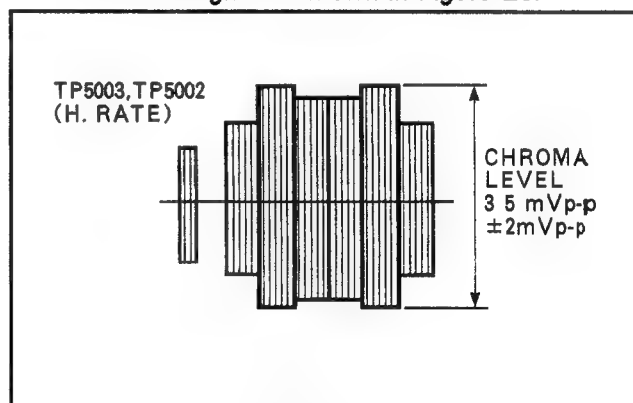

Figure E7
5. Adjust VR5002 for $35mV_{p-p} \pm 2mV_{p-p}$ as a cyan level of the chrominance signal as shown in Figure E7.